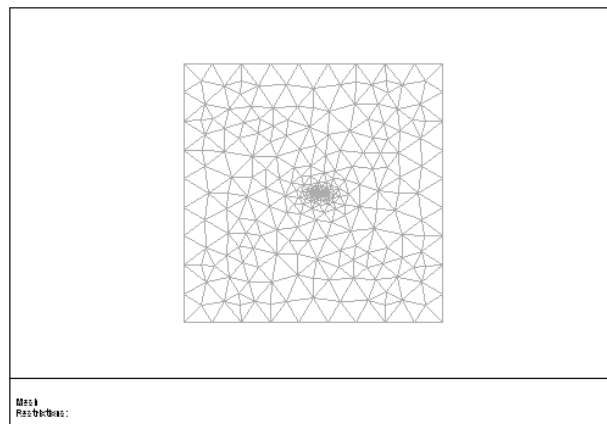

Figure 4.5.2: Grid Display
4. Click Display (see Figure 4.5.2).